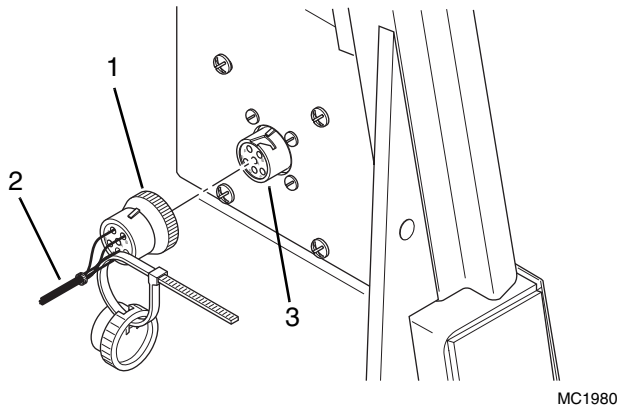

Figure 4-35 Door Harness Locking Collar
- a. Rotate the locking collar (Fig. 4-35, 1) counter-clockwise to disconnect the door harness (2) from the fuse block (3).